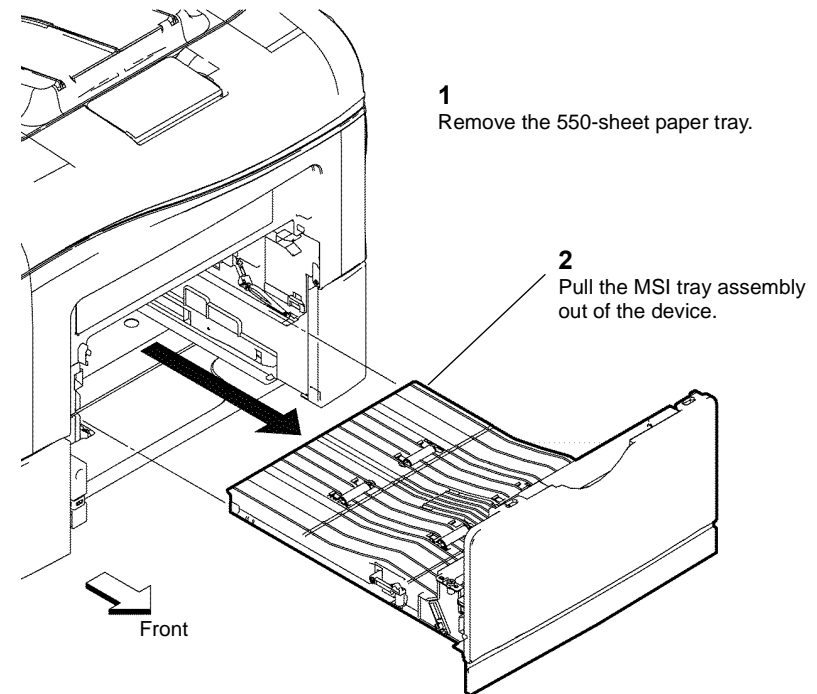

Figure 1 MSI tray assembly
1. Remove the MSI tray assembly, Figure 1.